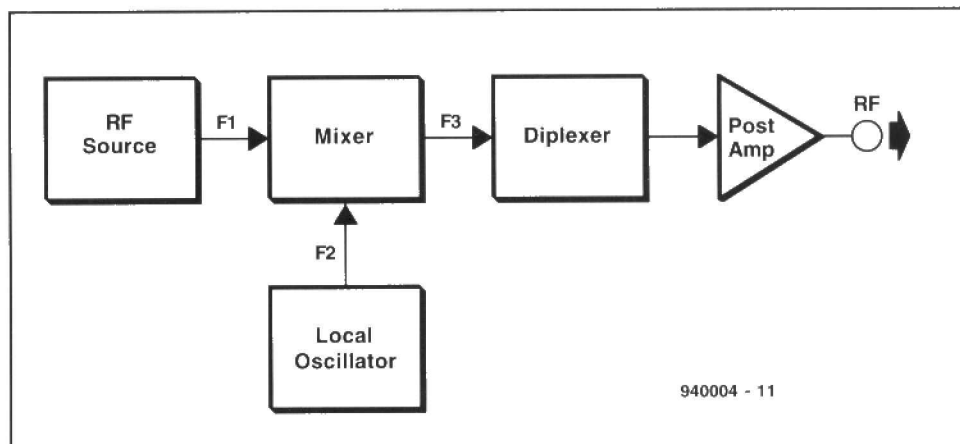

Fig. 1. Block diagram of a mixer used as a frequency converter.
THE block diagram for a basic mixer system is shown in Fig. 1; this diagram is generic in form, but also represents the front-end of superheterodyne radio receivers. The mixer has three ports: F_1 receives a low-level signal, and would correspond to the RF input from the aerial in radio receivers; F_2 is a high-level signal, and corresponds to the local oscillator (LO) in superhet radios; and F_3 is the resultant mixer product (corresponding to the **intermediate frequency** or 'IF' in superhet radios). These frequencies are related by:
A **diplexer** stage is shown in Fig. 1, and is used to absorb unwanted mixer products, and pass desired frequencies. These frequency selective circuits are discussed below.